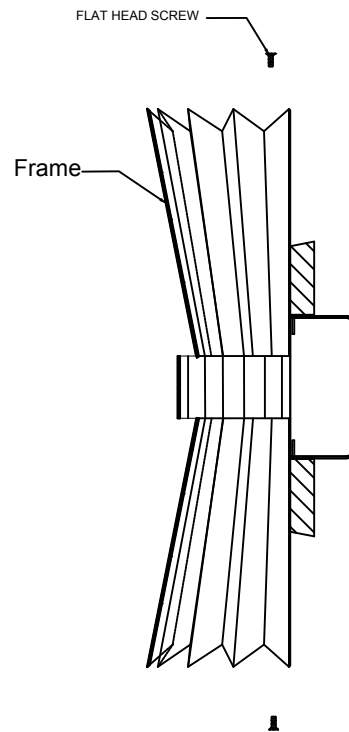

FIGURE-03
5. Using flat head screws fasten the frame to the back plate. (See Figure-03)